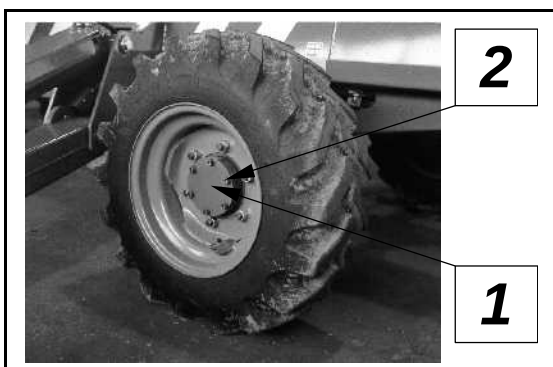

Figure 21. Removal of cover
4. If the engine of the Access Platform is out of order or if the Access Platform has to be towed far, the hydraulic drive motors must be disconnected from the wheels by removing the covers of the wheel hubs. Removal of the covers (figure 21): Unscrew Allen screws 2 and pull out cover 1.